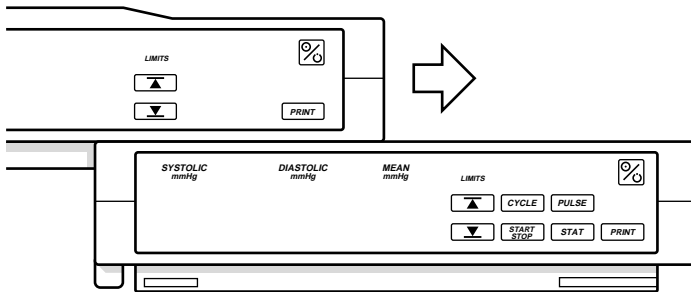

Figure 12: Connecting to the N-3100
3. Slide the N-3000 onto the N-3100 or N-3200 until the docking connectors firmly engage and you hear a “click.” See Figure 12.